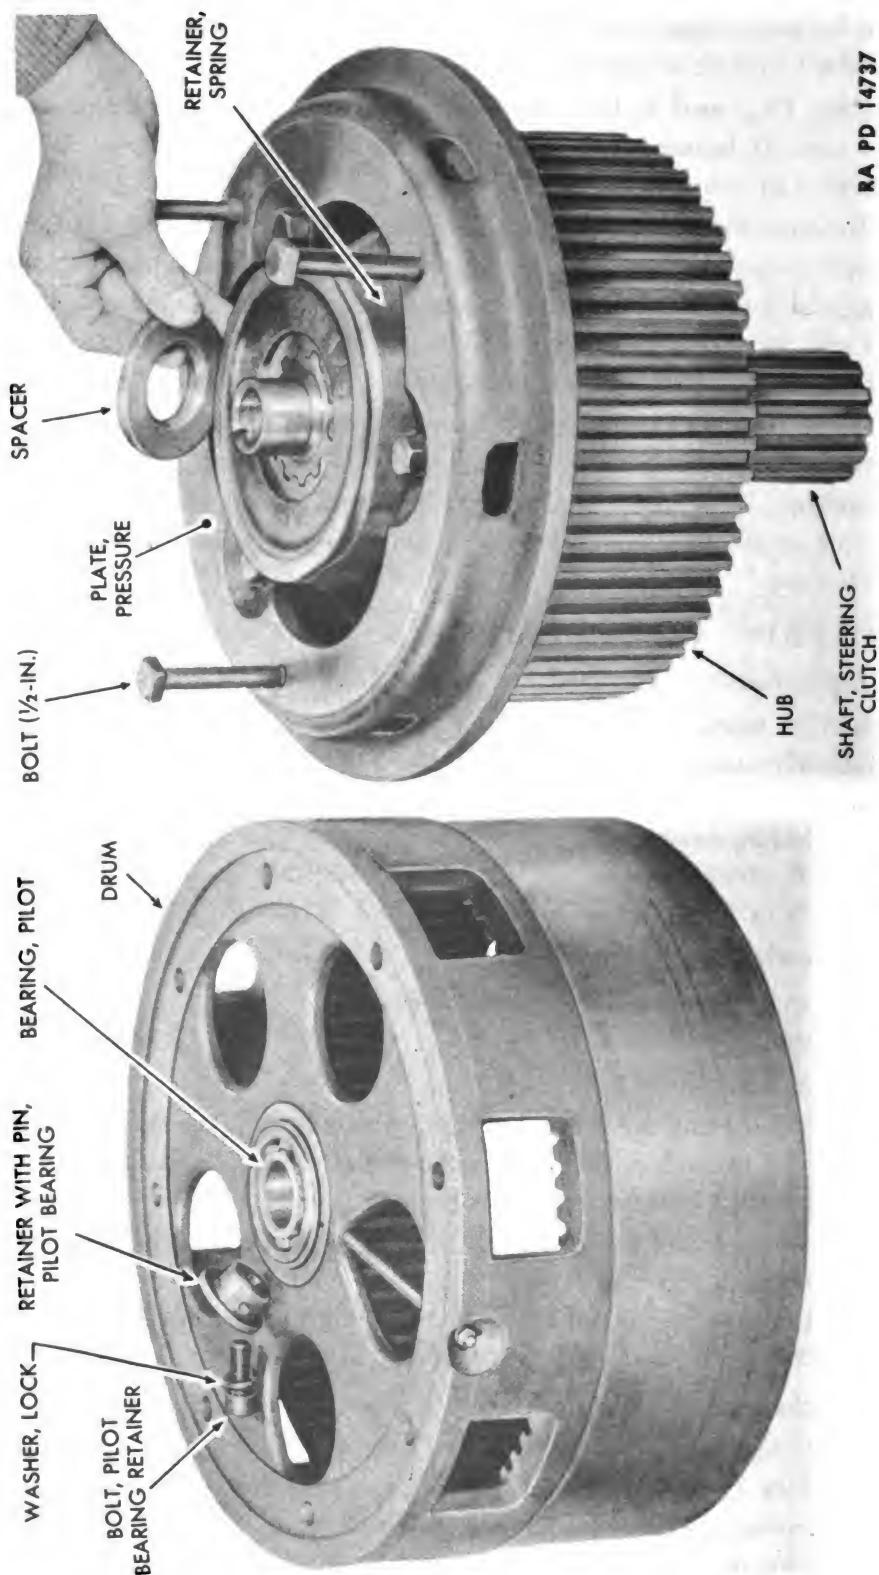

Figure 106 – Steering Clutch Shaft Installation
(2) **COMPRESS STEERING CLUTCH SPRING WITH BOLTS (fig. 106).**
(3) INSTALL SHAFT AND DRUM (fig. 106).